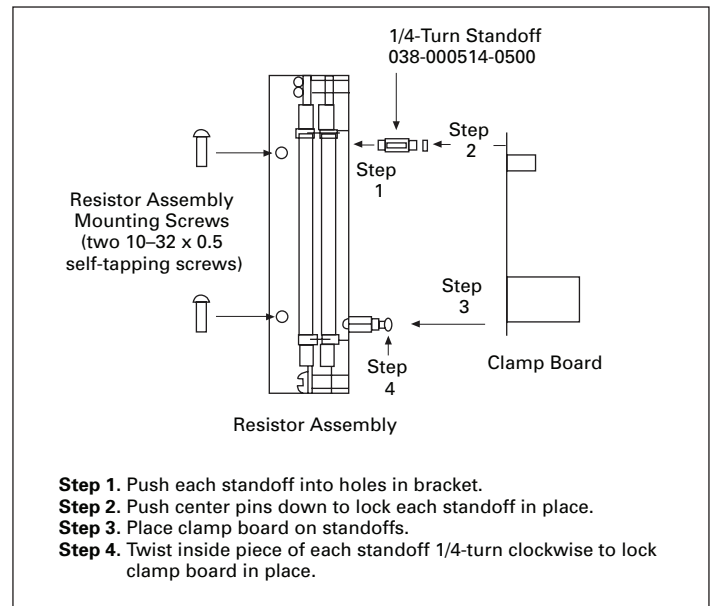

Figure 4. Resistor and Clamp Board Assembly
1. Mount the clamp board to the resistor assembly, using the four 1/4-turn standoffs as in **Figure 4** below.